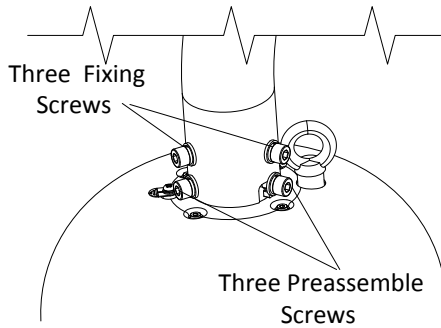

Figure 2-14 Secure the Speed Dome
5. Screw three fixing screws into the fixing screws holes on the bracket. Then tighten three preassemble screws to secure the speed dome as shown in Figure 2-14.